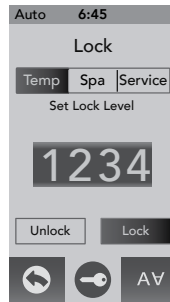

Figure 12.10b
From the Settings Menu, tap **Lock...** to enter the programming options, Figure 12.10b. You can prevent users from changing certain features of the spa. When a lock feature is active, the lock icon  will appear on the Main Menu.
### A. Temp Lock (Figure 12.10b):
### B. Spa Lock (Figure 12.10b):
**C. Service Lock (Figure 12.10b):**